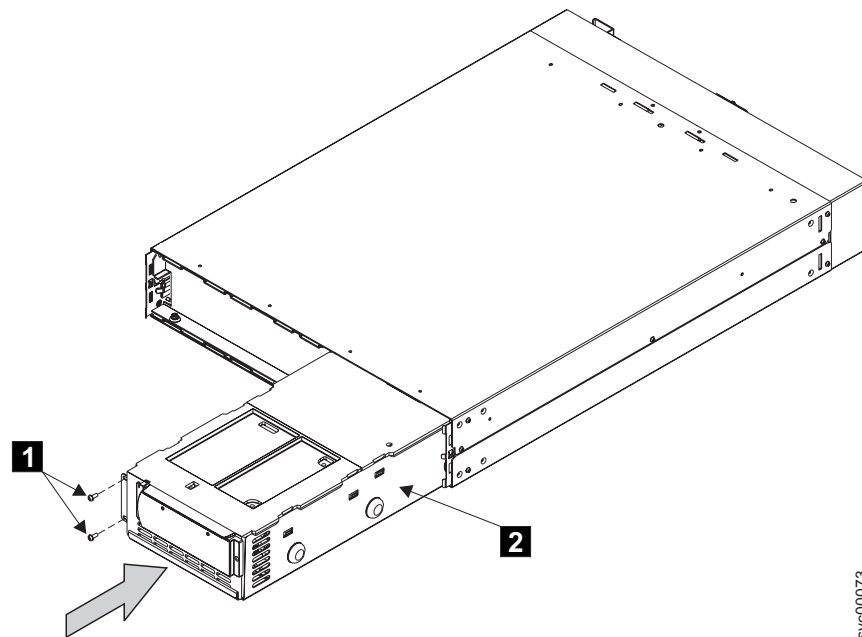

Figure 174. Replacing the electronics unit from the 2145 UPS
1. Replace the two screws in the front of the 2145 UPS. See **1** in Figure 174.